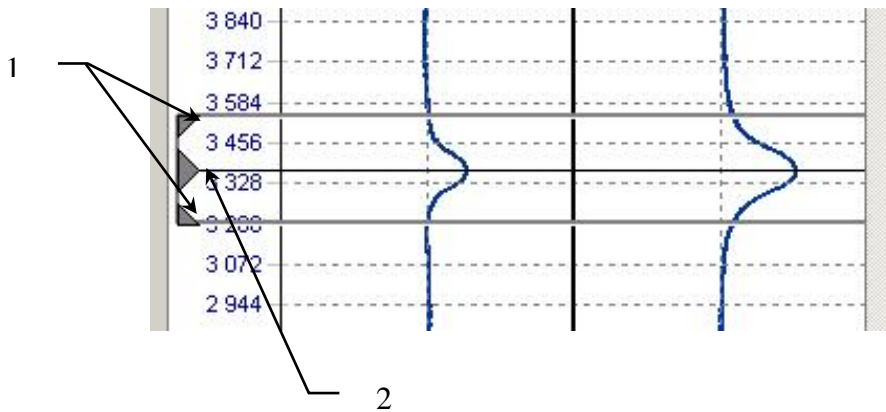

Figure 38
To change the cursor position it is required to place the "mouse" cursor onto the center of a measuring cursor (item 2, Figure 38), and when there is a  cursor, move the measuring cursor to the required position by holding the left mouse button down.
To change the width of a measuring cursor, place the "mouse" cursor to the extreme position of the measuring cursor (item 1, Figure 38), and, when there is a  cursor, set the required width of a measuring cursor by holding the left mouse button down.